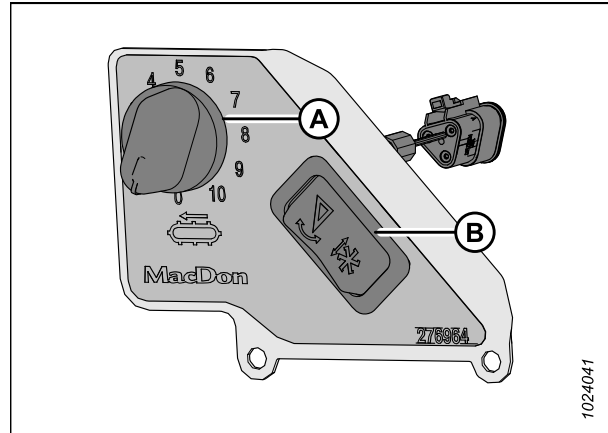

Figure 3.183: In-Cab Side Draper Speed Control
Switch (B) in Figure 3.183, page 160 allows the operator to switch between the header tilt and reel fore-aft controls. For instructions on the controls, refer to Adjusting Header Angle from Combine, page 156.